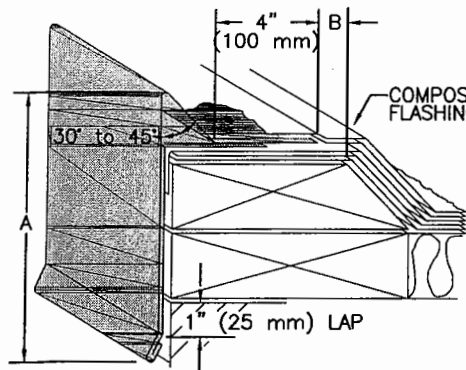

FIG 2-1A
5. Cleats: horizontal cleats should be continuous. Continuous means in lengths not to exceed 10 ft (3 m) with ¼ in. (6.4 mm) clearance between ends. Cleat end locations should not coincide with locations of vertical joints and seams if the gaps will be visible. Cleat gage must be at least fascia gage. An optional method is extend the cleat up to the top edge of the roof and turn a horizontal leg at a 90 degree angle over the top edge of the roof. This will add rigidity to the fascia. See Figures 2-1A and 2-1B for cleat detail.
Figure 2-1A illustrates a gravel-stop-fascia system installed on a raised 2 × 8 in. (50 × 203 mm) nailer which has been cut to form a cant. Figure 2-1B illustrates a gravel-stop-fascia system installed on a raised 2 × 6 in. (50 × 152 mm) nailer with a preformed tapered edge strip. In all cases, the metal roof flange of the gravel-stop is held back a minimum of ½ in. (13 mm) from the edge of the nailer.